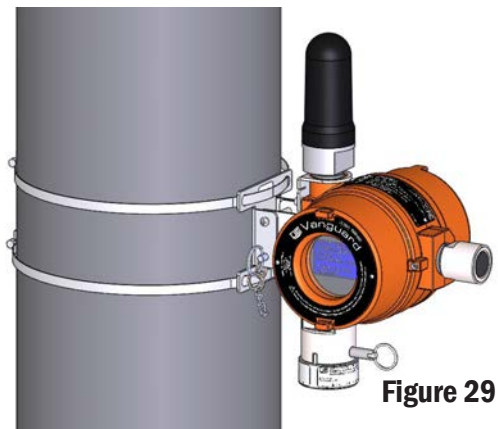

Figure 29
7. Push attached pin [5] through bottom holes to secure device to the bracket (see Figure 29).